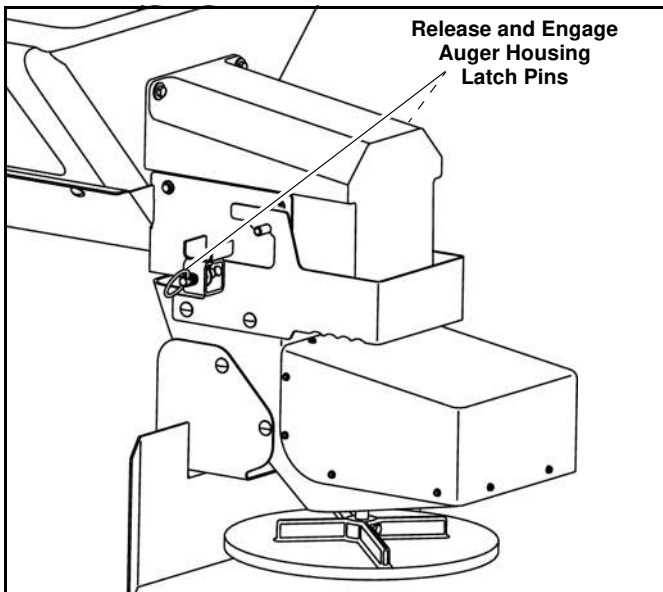

Figure 1-13
2. As the lower anchor holes align with the auger motor housing pins, pull each pin out and rotate clockwise to disengage the detent. Rotate each pin slightly as it engages the lower anchor holes on the chute spinner assembly. (See Figure 1-13).